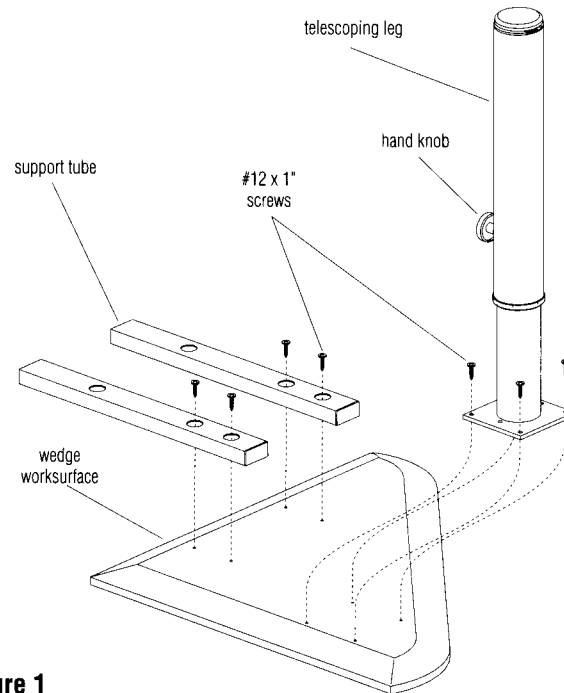

Figure 1
1. Carefully turn wedge worksurface upside down onto a soft protective surface. Attach the telescoping leg to the wedge worksurface using four #12 x 1" screws (Figure 1).
2. Attach two support tubes to the underside of the wedge worksurface using four #12 x 1" screws (Figure 1).
3. Loosen the hand knob on the telescoping leg. Adjust the leg to the approximate height of the workstation which the wedge surface will attach to. Tighten the hand knob to lock the leg into position (Figure 1).